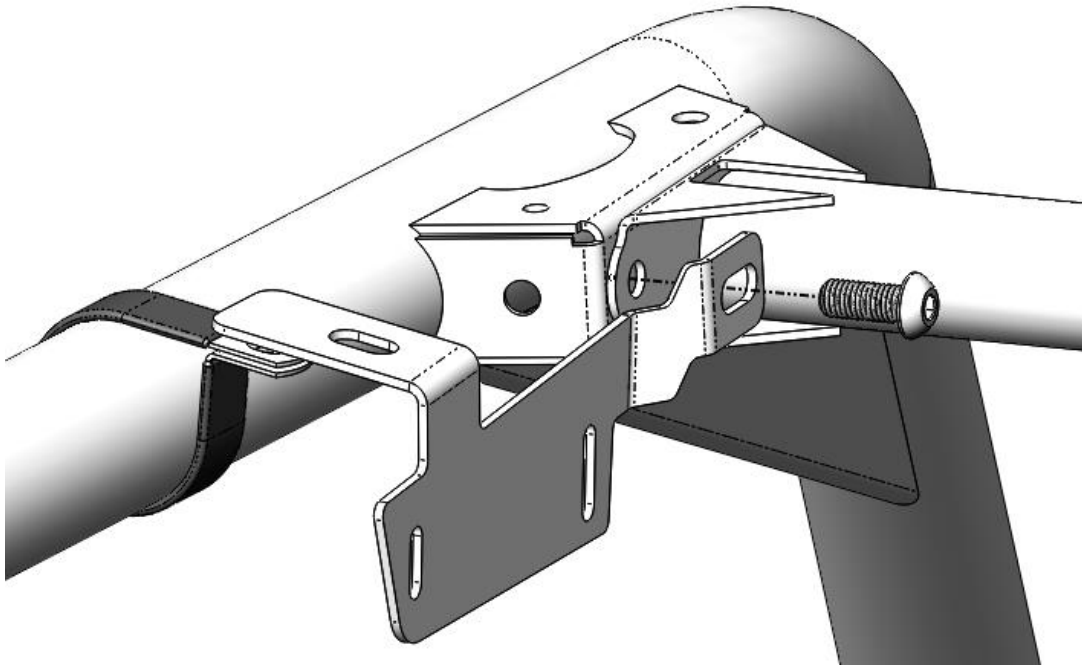
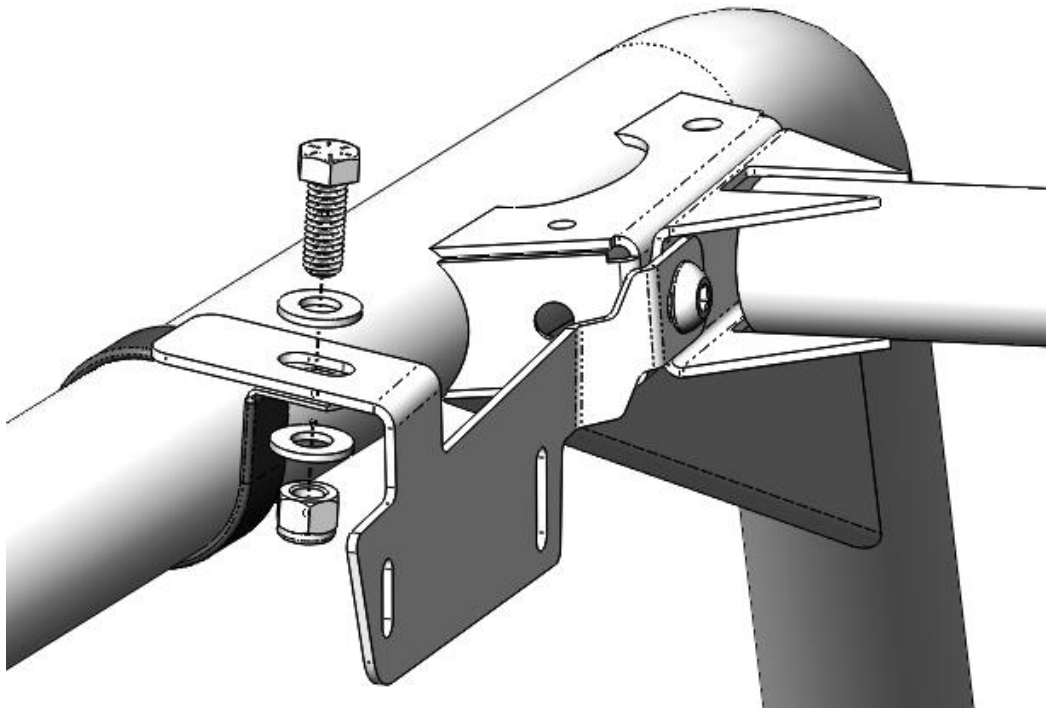

Figure 4: Mounting location of the *Audio Mini* bracket.
Figure 5: Hardware for mounting the loop clamps to the brackets.
3. Place the driver's side bracket on the inside of the cross member. Use the factory bolt and loosely tighten it until the bracket is secured to the loop clamp in the following steps. Verify correct orientation of the mounting bracket. See Figure 4. Note: Driver side shown. (Passenger side similar)
4. Use the supplied 3/8"-16 x 1" bolts, washers, and nylock nuts to secure the loop clamps to the mounting brackets. Snugly tighten the bolts to still allow for adjustment of the *Audio Mini* placement. See Figure 5. Note: Driver side bracket shown. (Passenger side similar)
6. Tighten both loop clamp bolts and both front cross member bolts to secure the brackets to the roll cage, once you have the *Audio Mini* in your desired position. See Figure 4 and Figure 5.